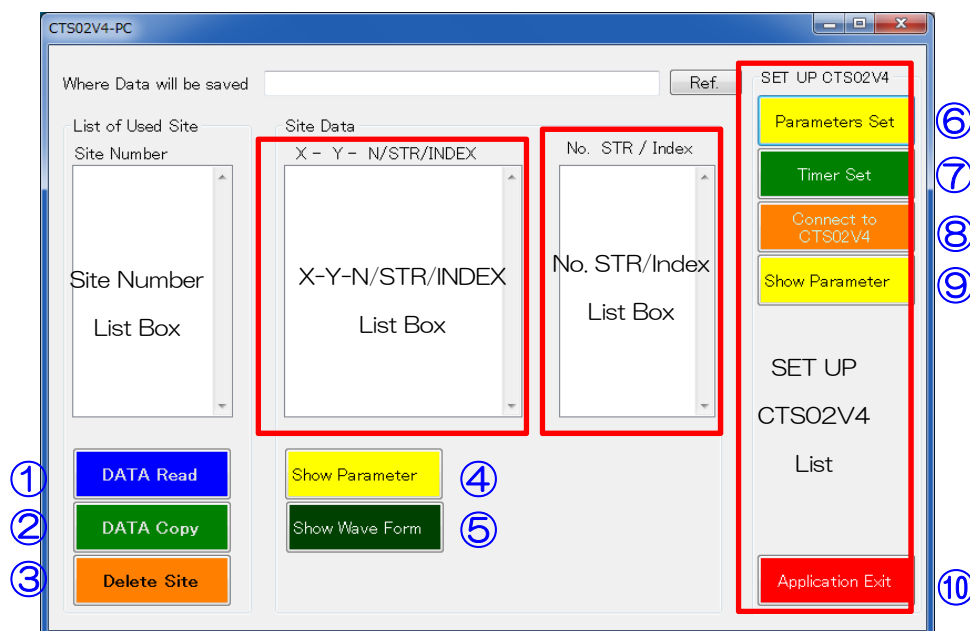

Fig.4-5 Initial Screen for Start-up
- The initial screen is shown below (See Fig.4-5).